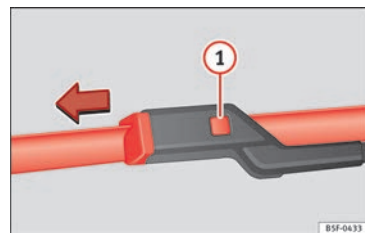

Fig. 90 Changing the windscreen wiper blade.
- Press the securing tab down ① » **Fig. 90.**